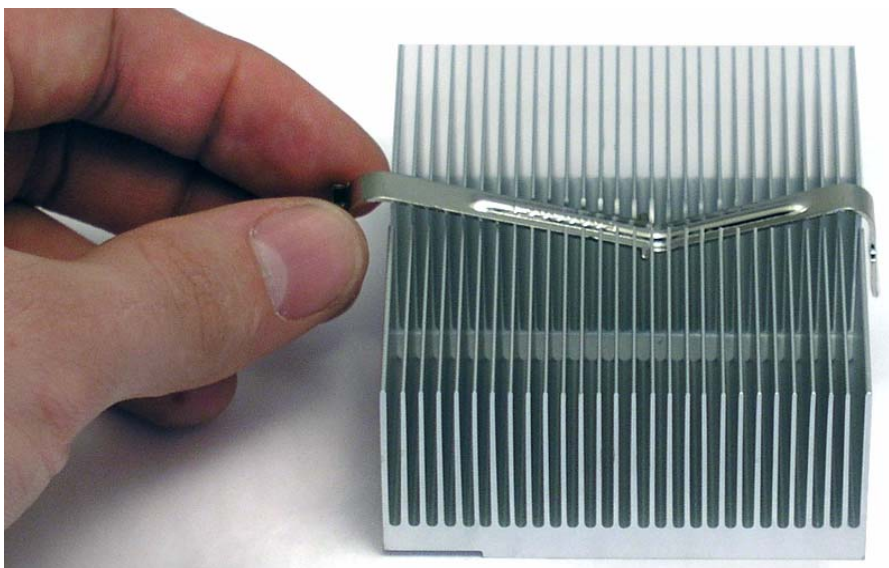

Figure 2.4 – Heatsink Clip Pivot Placement
- 1) Before installing the heatsink, make sure the heatsink clip pivot is placed in the 12th slit, between heatsink fins 12 and 13, as shown in Figure 2.4. Make sure there is thermal grease applied to the bottom of the heatsink. Use caution, do not disturb the thermal grease.